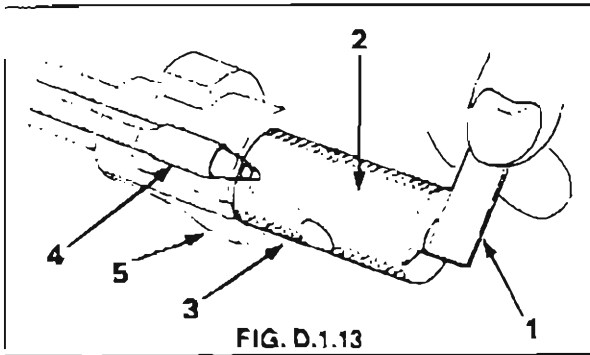

FIG. D.1.13
16. Reposition the straight edge on the face of the highest step and check that the end of the floating rod is below, or level with, the straight edge. If the rod end projects beyond the straight edge the firing pin is out of limits and must be repaired. See Fig. D.1.13